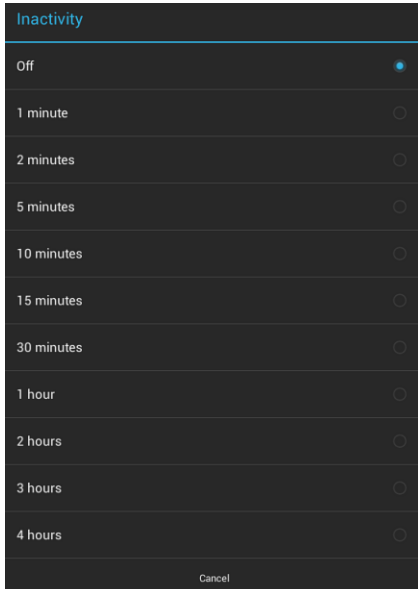

FIG. 32 Inactivity window
1. In the *G5 Settings* page, press **Inactivity** to open the *Inactivity* window (FIG. 32):